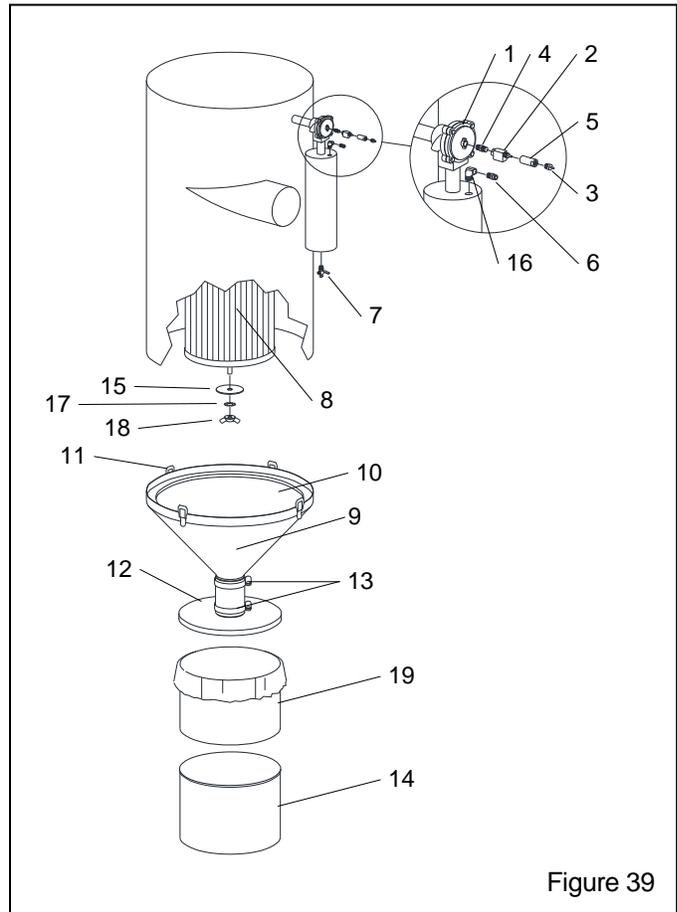

Figure 39
9.12 Dust Collector, Pulsar IV, Figure 39